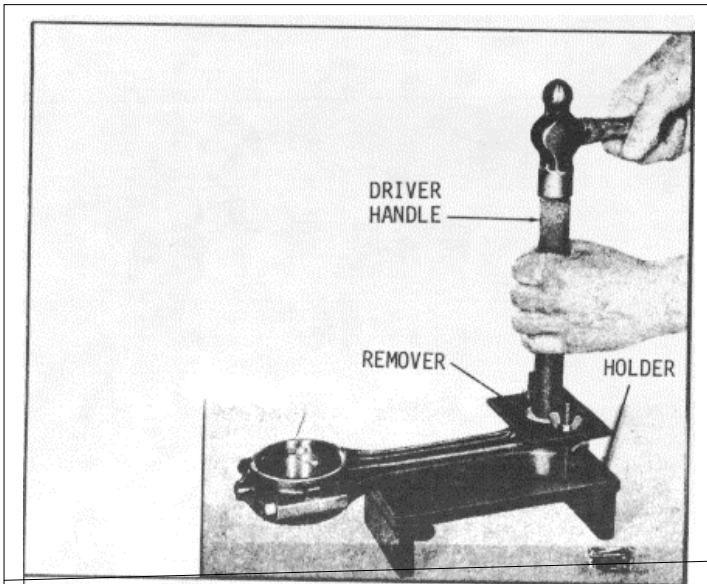

Fig. 5
- (1) Clamp the upper end of the connecting rod in holder J 7632 (Fig.5) so that the bore in the bushings is aligned with the hole in the base of the holder.
- (2) Place the bushing remover J 1513-3 in the connecting rod bushing, insert handle J 1513-2 in the remover and drive the bushings from the rod.
- (1) Clamp the upper end of the connecting rod assembly in holder J 7632 so that the bore for the bushings aligns with the hole in the base of the tool (Fig.5).